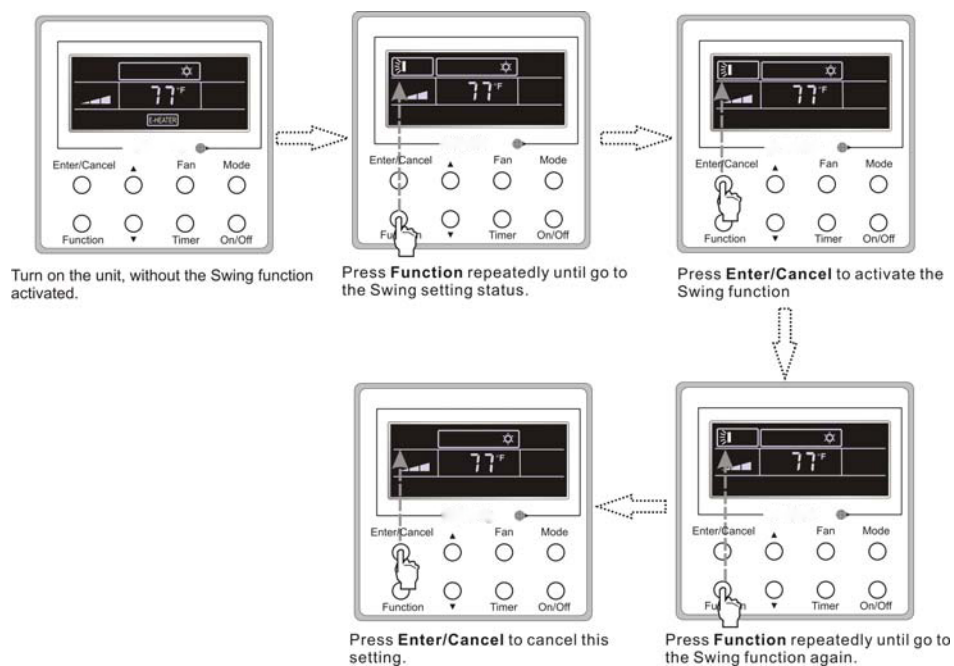

Fig.3.6.1 Swing Setting
**Swing Off:** When the Swing function is on, press **Function** to enter the Swing setting interface, with  blinking. After that, press **Enter/Cancel** to cancel this function. Swing setting is shown as Fig.3.6.1.